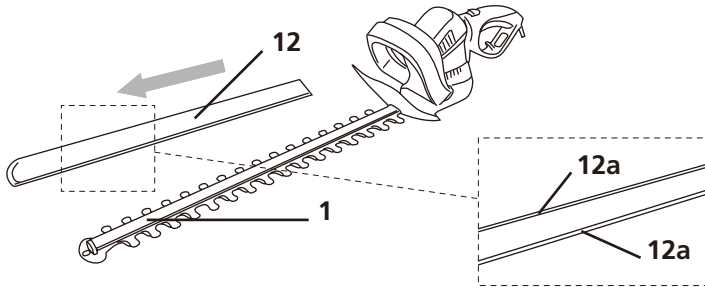

Fig 1
1. Press the lateral pressure points (12a) and remove the blade cover (12) from the cutting device (1) before operation (Fig. 1).